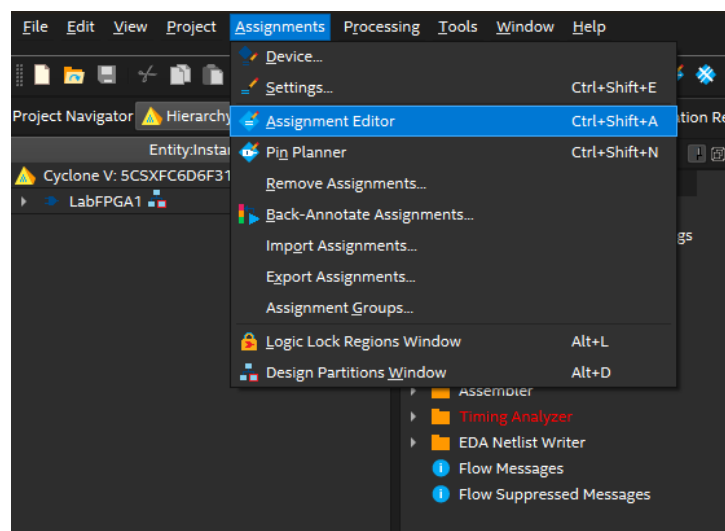

Figure 8. Assignment Editor
19. Once the design has been compiled and synthesized successfully, you must assign the physical FPGA pins for the required peripherals. To do this, go to the top menu and select: **Assignments** → **Assignment Editor**, as shown in Figure 8.